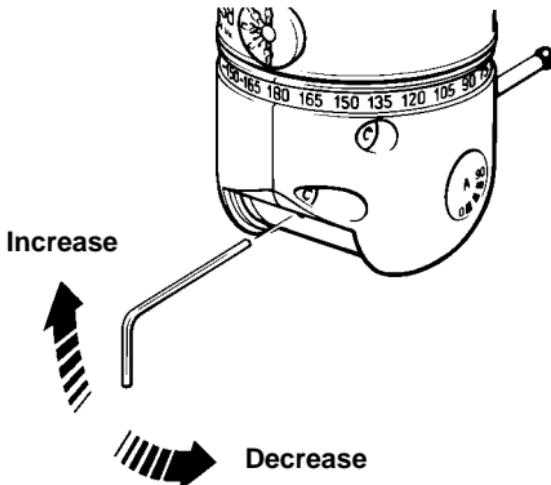

Figure 5 - Stylus trigger force adjustment
5.3 Probe trigger force adjustment (see figure 5)